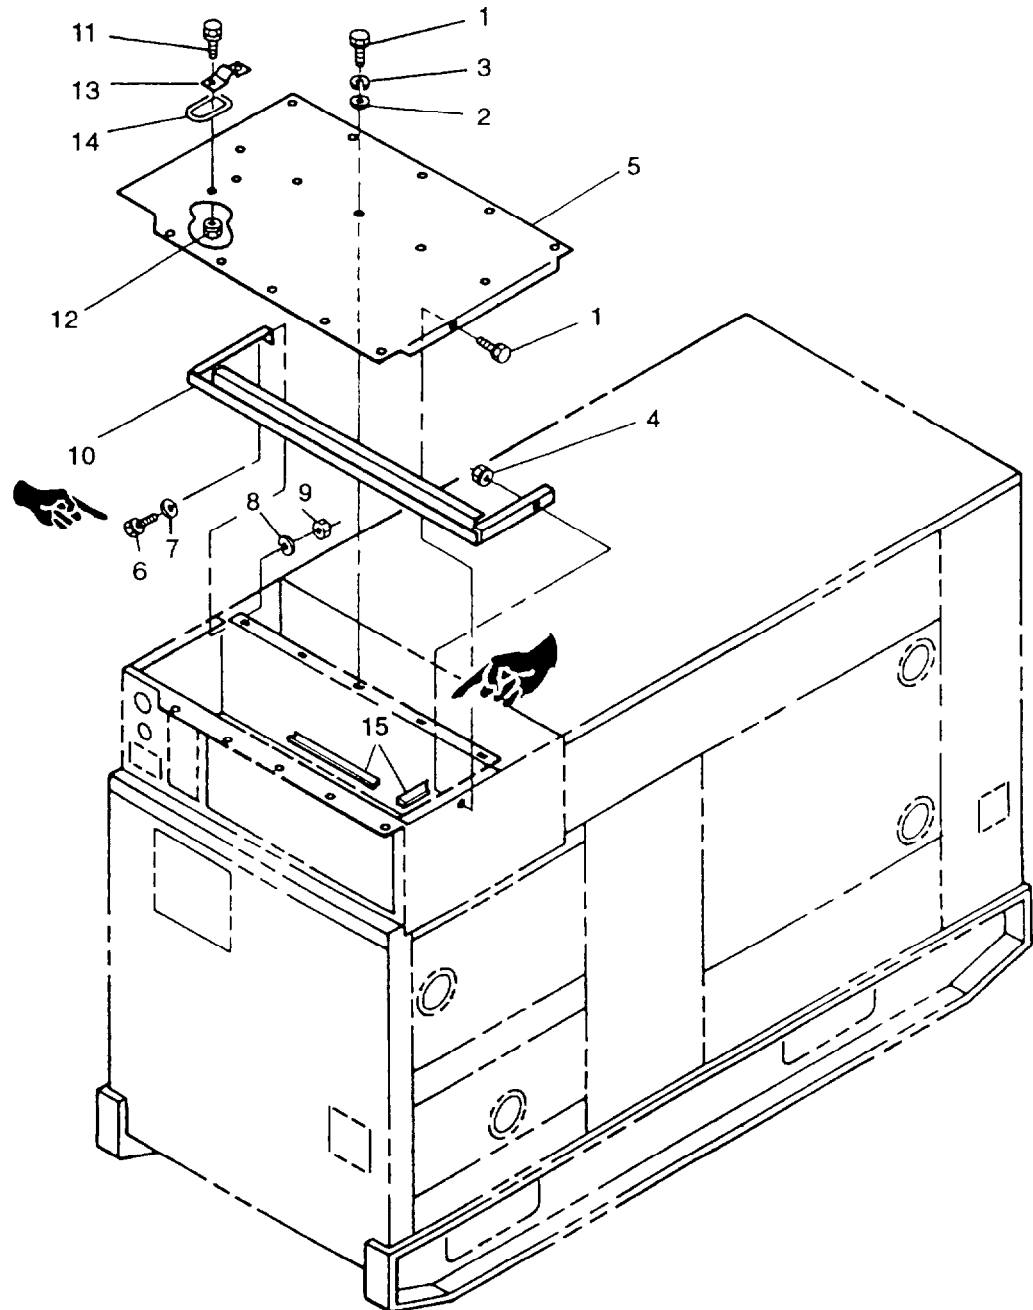

FIGURE 2-6. Control Box Top Panel
- d. Lower control panel and remove bolts (1, FIGURE 2-6), flatwashers (2), lockwashers (3), and assembled nuts (4) from top panel (5).
- c Inspect control box top panel (5 FIGURE 2-6) for dents, cracks, loose paint, and corrosion
- c Repaint surfaces in accordance with TM 43-0139. (F) Refer to applicable directives.
- a Install ring (14, FIGURE 2-6) and bracket (13) on control box top panel (5) with bolts (11) and assembled nuts (12).
- b Install stiffener (10) in control box assembly with bolts (6), washers (7), lockwashers (8), and nuts (9).